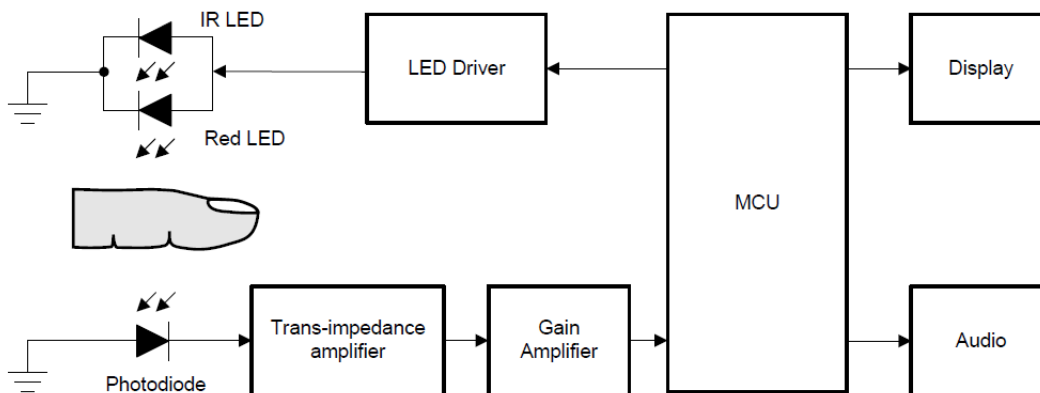

Figure 2-1. Block Diagram of Pulse Oximeter
In principle, the HbO₂ and Hb respond differently to different wavelengths of light. Hb absorbs more red light compared to infrared (IR) light, whereas, HbO₂ absorbs more infrared light. As shown in Figure 2-1, when Red and IR Light Emitting Diodes (LEDs) are driven alternately through a finger, the unabsorbed light received at the other end of the finger (where a photodiode is used as the sensing element) corresponds to the concentration of Hb and HbO₂ in the blood.